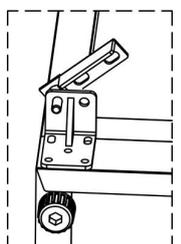

Fig.6
11. Install the bottom support bracket. (Fig.6)